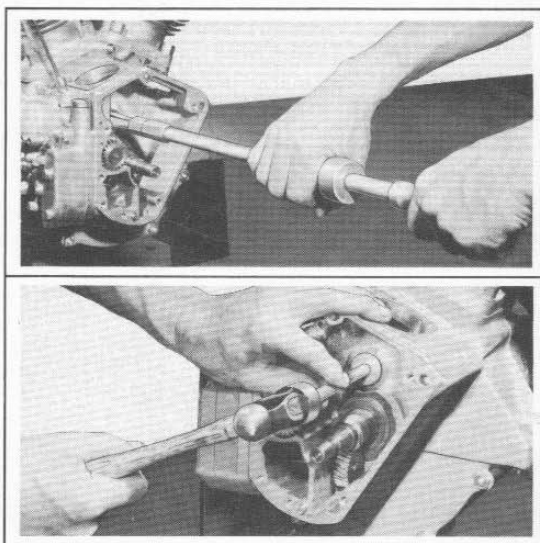

Figure 3-29. Removing and Installing Cam Gear Needle Bearing
2. Inspect oil screen (4) carefully to make sure mesh is open. Holding screen to light is not an absolute check. It is possible for oil screen to be plugged or partially plugged with tiny lint-like fibers and still permit light to pass. Replace plugged or partially plugged screen.
4. Inspect cam gear oil seal (34) in cover to see that lip is in good condition.
6. Inspect needle bearing (35) for wear, broken or gouged bearings. If end of cam shaft shows any appreciable wear (0.003 in. or more), needle bearing is probably worn to a point where replacement of bearing and cam shaft are advisable.
7. Needle bearing can be removed and installed in crankcase without disassembling crankcase with Puller Tool, Part No. 95760-69 as shown in figure 3-29. Press needle roller bearing into crankcase with Tool, Part No. 97272-60 as shown in figure 3-29. Press from heavier end having the manufacturer's name only. Pressing from opposite end will crush roller race and bind rollers. Pinion shaft main roller bearing may be replaced only when crankcase is disassembled (see "Disassembling Crankcase").